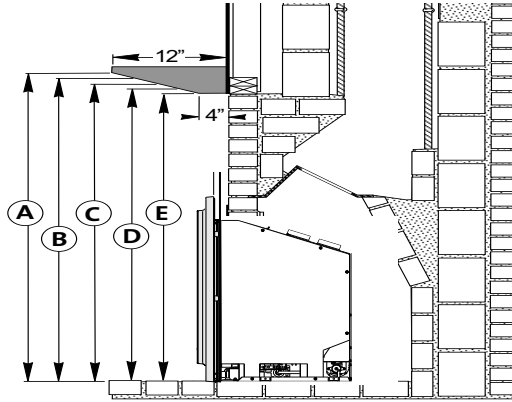

Figure 129. Mantel and ceiling dimensions
Measure clearances from the finished floor of the fireplace opening. See fig. 129
- E: Top Trim Clearance from hearth:** See fig. 129
- F: Mantel Clearance from hearth:** See fig. 129